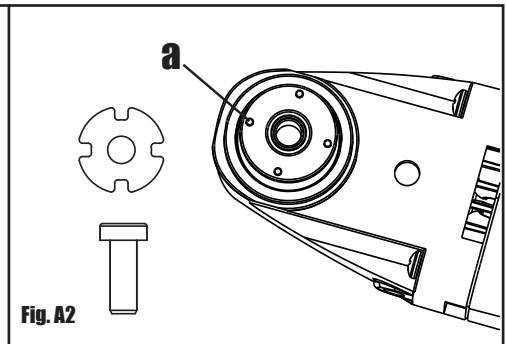

Fig. A2
- 2) Completely remove the bolt and the flange from the shaft. (See Fig. A2)